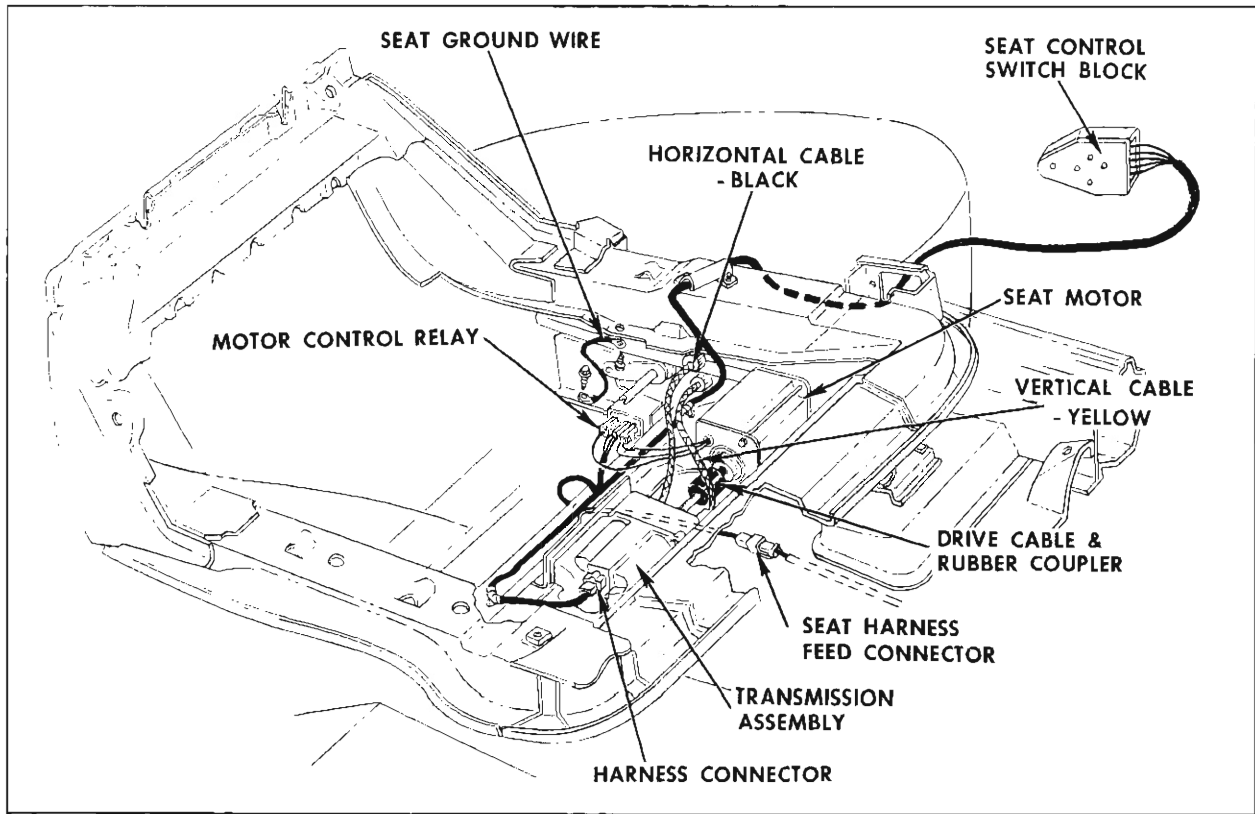

Fig. 22-7 4-Way Seat Installation
3. Remove screws securing horizontal and vertical cable end plate on side of transmission from which cables are being removed and remove cables from seat assembly (Fig. 22-7).
2. Disconnect wire harness connector from transmission (Fig 22-7).